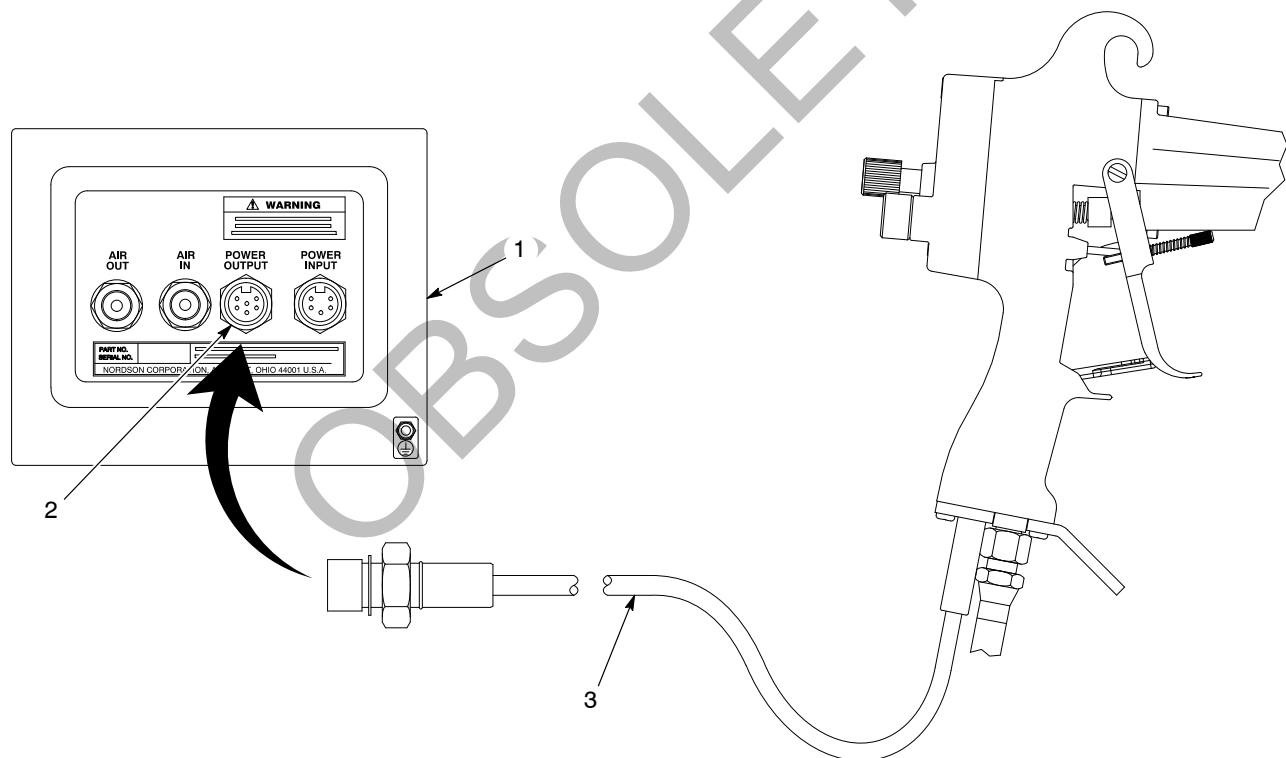

Figure 3-4 Gun Cable Connection
See Figure 3-4. Connect the gun cable (3) to the POWER OUTPUT or GUN CABLE receptacle (2) on the back of the control unit (1).